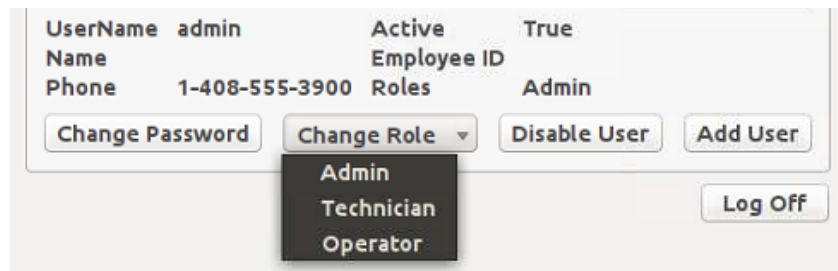

Figure 38: Change Role Drop-Down
1. Click to highlight the user role you want to change. Figure 38.
The Change Role drop-down menu displays. Figure 38.